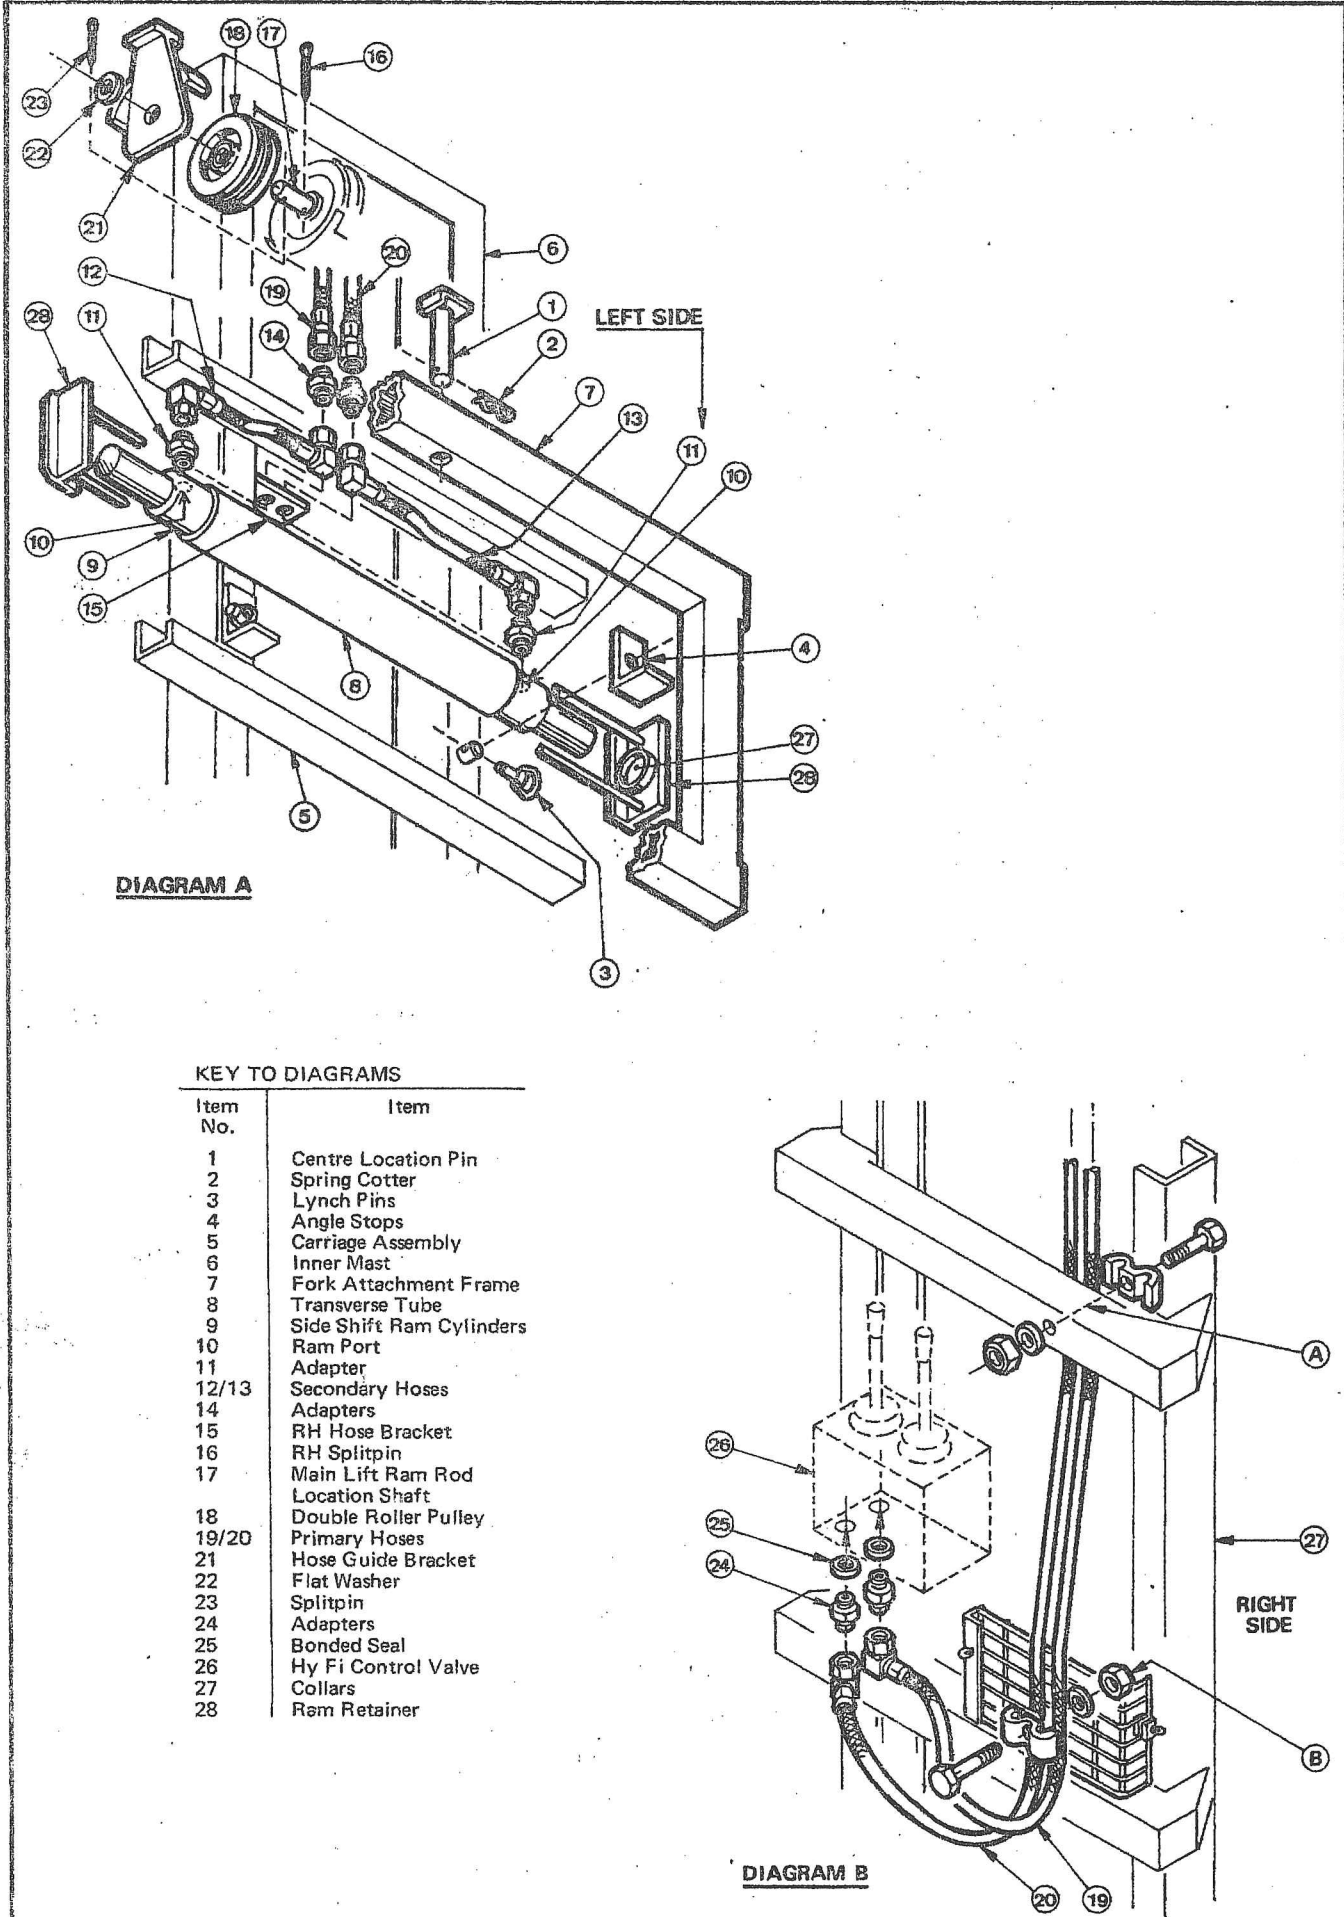

FIGURE 4 - TK2 SIDE SHIFT INSTALLATION FEATURES
7. TK2 Side Shift Installation (Refer to Figure 4)